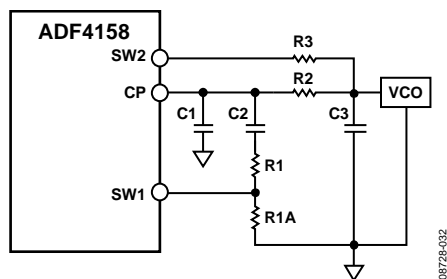

Figure 43. Fast-Lock Loop Filter Topology—Topology 1
- Divide the damping resistor (R1) into two values (R1 and R1A) that have a ratio of 1:3 (see Figure 43).